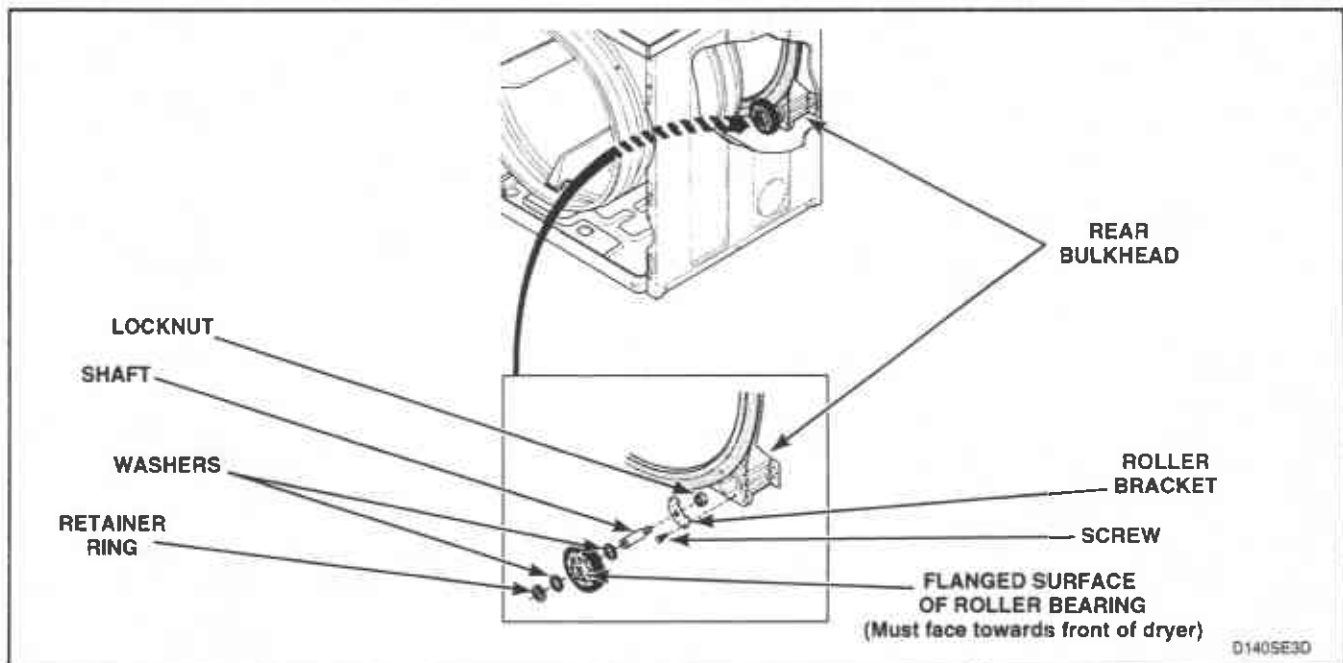

Figure 43
- Pull cylinder forward allowing rear of cylinder to drop down exposing rollers, *Figure 43*.
- Refer to *Figure 43* for removal of roller from bulkhead.